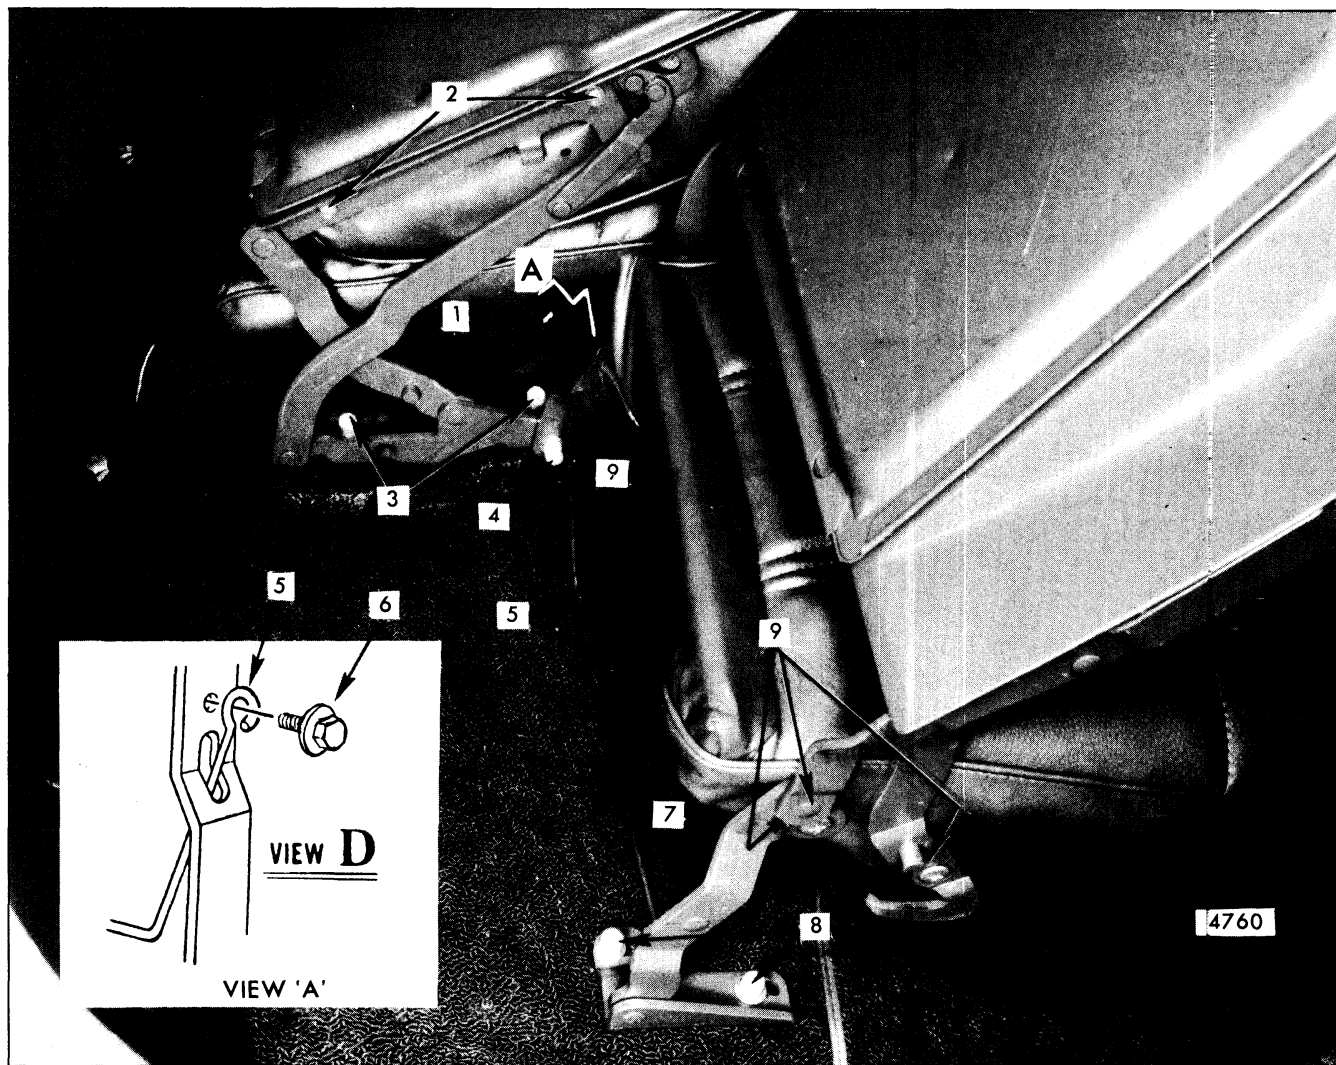

Fig. 9-86-Folding Second 2/3 Seat Back Inner Linkage and 1/3 Seat Back Outer Linkage - "B" Body Three-Seat Station Wagon
To remove the right side second seat cushion (1/3 seat) on three-seat station wagon styles, place the seat assembly in the forward position. From under both rear and front of seat cushion remove bolts securing cushion assembly to inner and outer rear linkage (see Figs. 9-86 and 9-87) and to front linkage; then, remove cushion assembly.
2. At both right and left side of seat back, remove linkage to seat back panel attaching screws (Fig. 9-86) and remove seat back assembly with filler panel from linkage.
2. Loosen 1/3 seat torque rod-to-floor pan attaching nut (see Fig. 9-86, No. 7). Move 1/3 seat forward to a position where torque is relieved from rod; then, remove torque rod nut.
3. Remove 1/3 seat back inner link-to-2/3 seat back inner link attaching nut (Fig. 9-86).
4. Remove 2/3 seat back inner linkage-to-floor pan attaching bolts or nuts (Fig. 9-86).
7. To install second 2/3 seat back or inner linkage assembly, reverse removal procedure. Make sure bushing and spring washer are installed at 1/3 seat back inner link-to-2/3 seat back inner linkage attachment (Fig. 9-86, No. 4).
1. Loosen torque rod-to-floor pan attaching nut (Fig. 9-86, No. 7). Move 1/3 seat forward to a position where torque is relieved from rod; then, remove torque rod nut.
2. Move 1/3 seat to full forward position, and remove nut securing 1/3 seat back inner link to 2/3 seat back inner link (see Fig. 9-86).
Linkage assemblies may be removed from 1/3 seat, as required. Refer to Figures 9-86 and 9-87 for 1/3 seat linkage attachments.
5. To install 1/3 seat assembly, reverse removal procedure. Make sure that bushing and spring washer is installed at 1/3 seat back inner link-to-2/3 seat back inner link (see Fig. 9-86, No. 4).
1. Fold right 1/3 seat back to a position where seat back outer linkage-to-seat back screws, indicated in Figures 9-86 and 9-87, are accessible; then, remove screws.